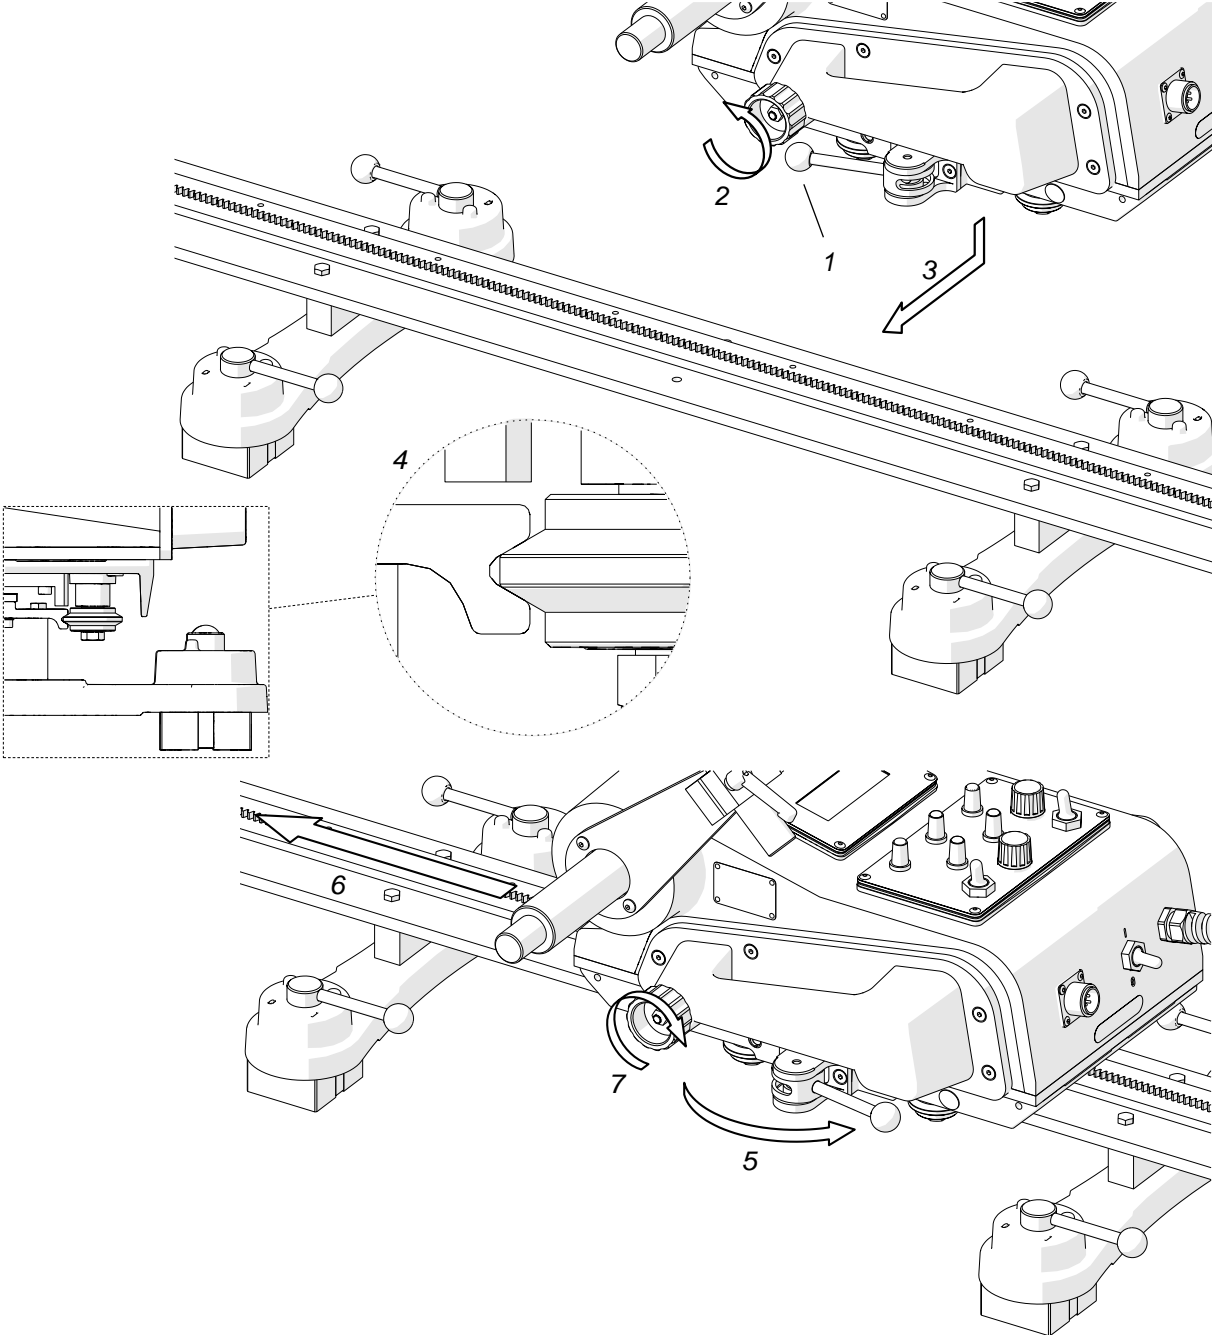

Fig. 4. Positioning the carriage on the track
Set the power switch, arc ignition switch, and travel direction switch to 'O'. Next, set the pressing lever to OFF (1, Fig. 4) and loosen the drive clutch knob fully (2). Then, set the carriage onto the track (3) so that the back rollers are placed in the groove (4).